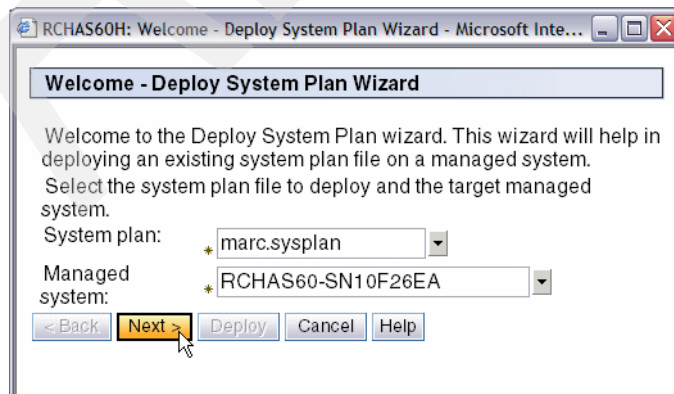

Figure 3-20 Confirm the deployment startup
2. Once the wizard is started, its welcome page, as shown in Figure 3-20, requests you to confirm the system plan to deploy and choose the managed server to be the target of the procedure. When your choices are done (in our example, we want to deploy the marc.sysplan file to the RCHAS60-SN10F26EA server), click **Next** to continue.